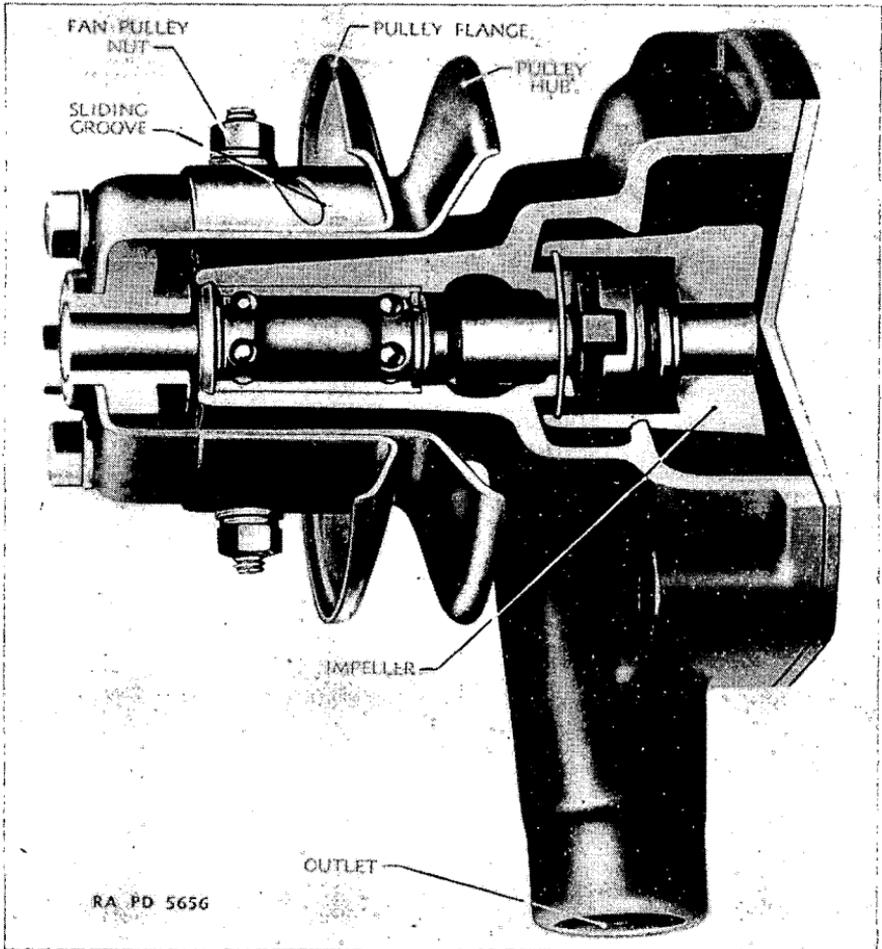
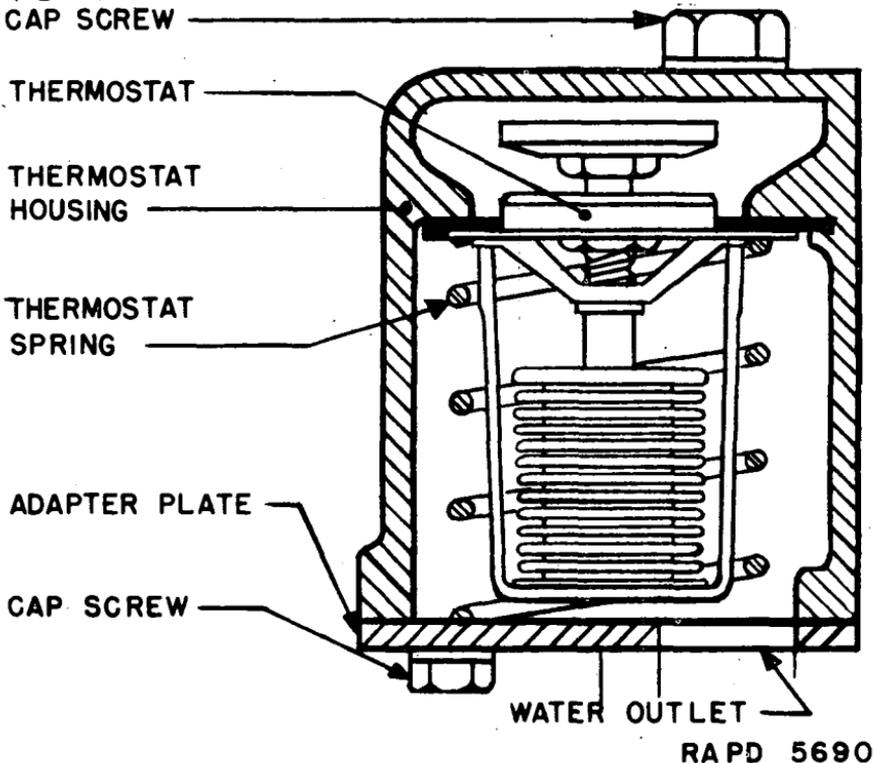

FIGURE 18.—Water pump showing fan belt tension adjustment on pump pulley—sectional view.
FIGURE 19.—Thermostat.
*c. Thermostat.*—A thermostat (fig. 19) is mounted in a housing on the forward part of the engine block. It functions to allow the engine to warm up quickly by limiting the amount of water circulation until the water in the engine is heated to a temperature sufficient to open the thermostat.
- (1) Loosen the two nuts on the fan pulley (fig. 18).
- (2) Grasp the pulley flange from the rear and turn it counter-clockwise; when desired tension is obtained, tighten the nuts on the pulley fan.
(3) Do not tighten the fan belt more than the amount necessary to prevent slippage.
(4) If the fan belt cannot be tightened sufficiently to prevent slippage, or if it is worn or frayed, replace it with a new belt.
*b. To remove thermostat from engine.*—(1) Remove the radiator hose.
(2) Remove the cap screws from the top of the thermostat housing (fig. 19).